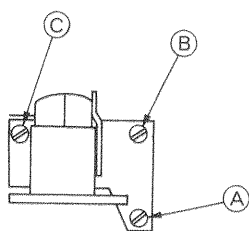

Fig. 1
- Tighten screws (A), (B), (C) shown in Fig. 1. Next, check that the head is installed in the right angle to the head plate using head adjusting jig. (Adjust the right angle using screws (A) and (B)).